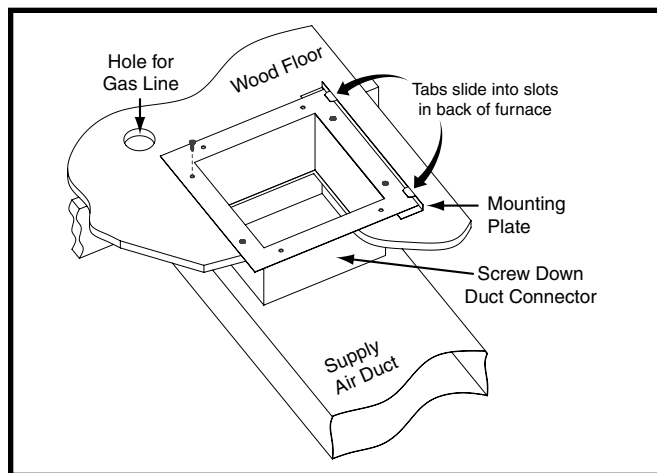

Figure 14. Screw-Down Duct Connector
1. Apply a bead of caulking, mastic, or other approved sealant around bottom side of 1/2" flange and restrictor plate (when applicable). See Figure 14.